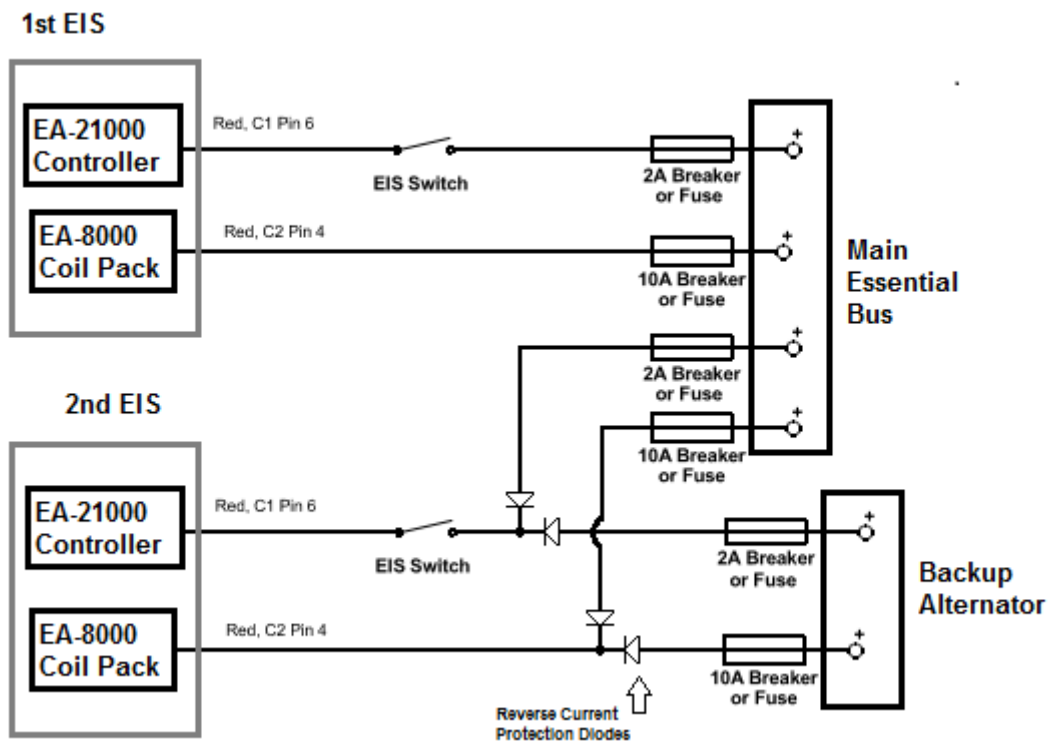

Figure 18: Single Engine, Dual EIS Backup Alternator Connections
- 3.) **Dual EIS Installation with Back-up Alternator:** Connect a panel mounted switch to a 2-amp breaker or fuse. For one EIS kit, connect that 2-amp breaker or fuse to the Essential Bus Bar. For the other EIS, connect the panel mounted switch to two separate current protection diodes. Current will need to flow into the EIS and not the other direction. From one of the diodes, connect to a 2-amp breaker or fuse and then to the essential bus bar. Connect the other diode to another 2-amp breaker or fuse and then to the back-up alternator. **Note:** Keep track of what power source is connected to each EIS. See Figure 18.
- 3.) **Dual EIS installation with Back-up Alternator:** For one coil pack, route the unterminated end of the Red wire from the harness through a 10-amp breaker (fuses may be used as an alternative to the breaker) to the same essential bus that the controller in the same EIS kit is connected too. Trim and terminate as required. For the other coil pack, route the unterminated end of the Red wire from the harness to two separate current protection diodes. Current will need to flow into the coil pack and not the other direction. From one of the diodes, connect to a 10-amp breaker or fuse and then to the essential bus bar. Connect the other diode to another 10-amp breaker or fuse and then to the back-up alternator. Trim and terminate as required. Note: This coil pack that is connected to the backup alternator should be in the same EIS kit as the controller that is connected to the back-up alternator. See Figure 18.
- ii. **Dual EIS installation on one engine with a single electrical system:** Connect C2-Pin 4 and C1-Pin 6 of one EIS to the main essential bus (through 10A and 2A breaker or fuses). Connect C2-Pin 4 and C1-Pin 6 of the 2nd EIS to a backup alternator and the essential bus using current protection diodes (through 10A and 2A breaker or fuses). For twin engine aircraft, if the other engine has one EIS installed, the C2-Pin 4 and C1-Pin 6 connections can be made to either the main essential bus or alternator. See Figure 18.